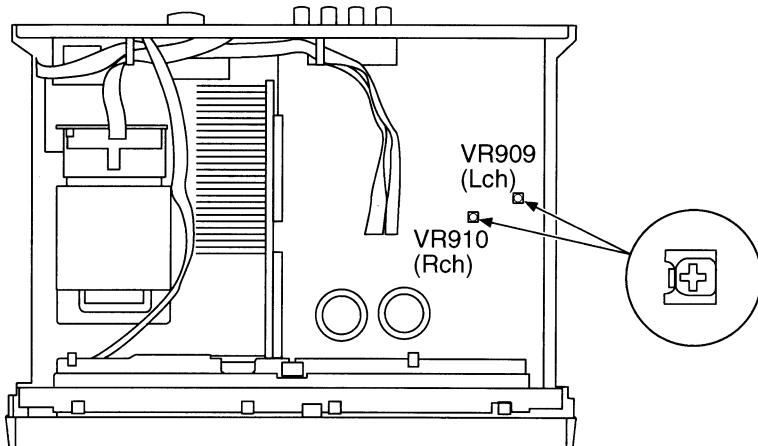

Fig.2
2. Before turning ON the set, adjust VR909 (L ch) and VR910 (R ch) to mechanical center position. Shown in Fig.2